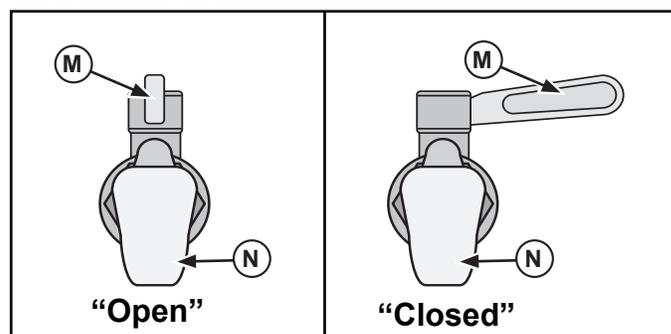

Figure 4. Drain and Drain Lever Positions.
- For units with baths check that the drain valve lever (M) is in the closed position. See Figure 4. Or, clamp the circulator to a vessel that is 5.3 qt (5L) to 31.7 qt (30L) in volume.